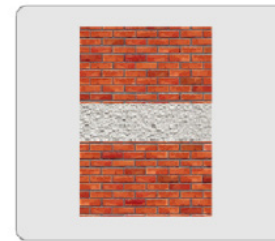

Figure 8
- 2) Fix the sealing ring to the rear air inlet. Position the back case against the wall and mark 7 holes with a pencil (see Figure 6). Drill holes 1–6 at 8 mm diameter and 40–50 mm depth. Drill hole 7 at 120 mm diameter (see Figure 8).